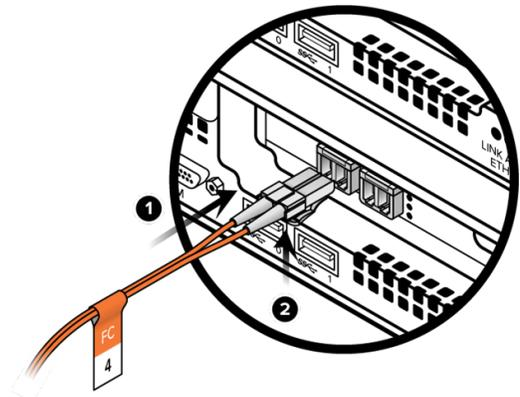

Figure 7-14. Connecting a Host Cable (FC Shown)
2. Push the connector into the transceiver (optical) or port socket (10-GbE copper). See Figure 7-14.